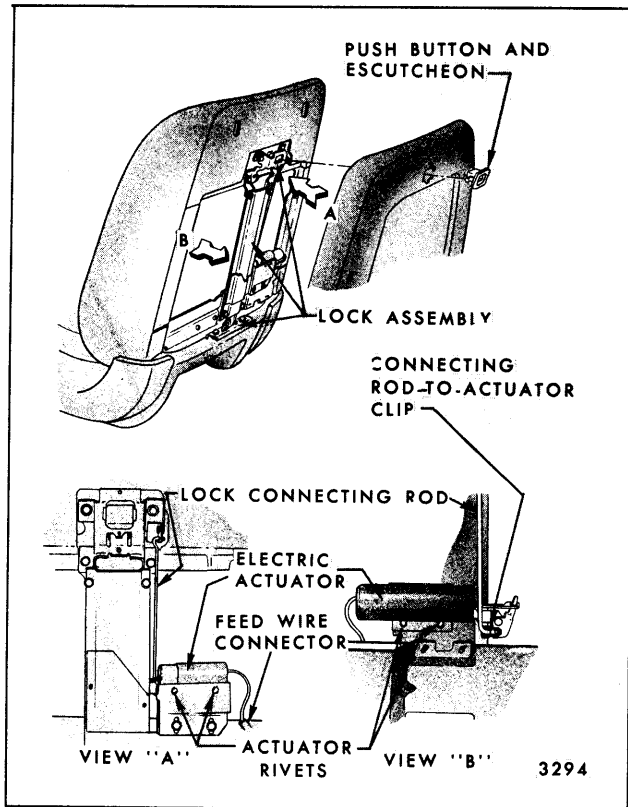

Fig. 15-54—Strato Seat Back Electric Lock and Lock Actuator - Cadillac
2. Disconnect actuator feed wire connector (Fig. 15-54).
4. To remove electric actuator assembly, disengage lock connecting rod-to-actuator clip (Fig. 15-54) and disengage rod from actuator.
2. On Cadillac styles with electric actuated seat back locks remove seat back panel, as previously described. Disconnect electric actuator feed wire connector (See Fig. 15-54) and pull feed wire out of seat back.